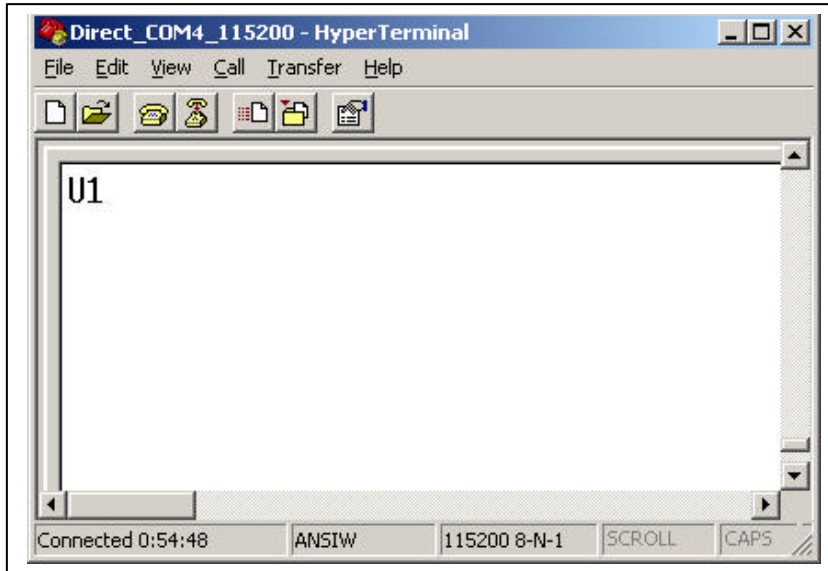

Figure 5. Direct COM4 – HyperTerminal
6. Type any characters in the COM4, the UART channel of SC16IS750/760 Bridge IC will receive them and then transmit them back to the UART channel. For example, type the character 1 in the COM4 and the character 1 will be displayed in the COM4 as result of the character 1 has been looped back from the UART channel as shown in Figure 5